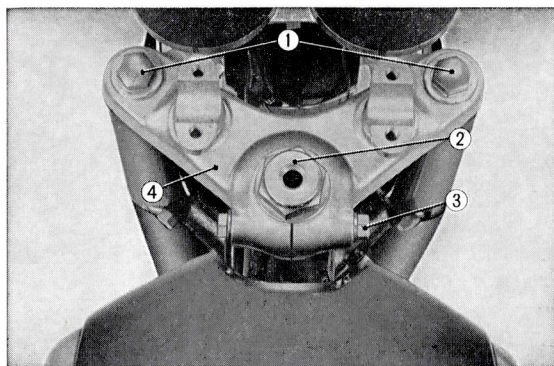

Fig. 4.12 Removing the fork top bridge
4. Separate the fork top bridge from the fork by unscrewing the front fork bolts, loosening the the steering stem nut and removing the 8mm lock nut. (Fig. 4.12)